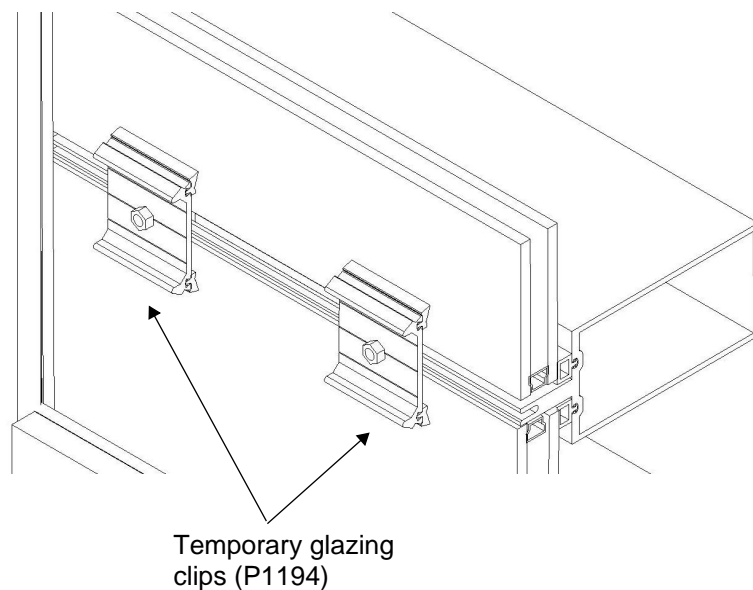

Figure 11: Set the glass and hold it in place with temporary glazing clips (available by request).
- Hold in place using P1194 temporary glazing clips (available by request) and S139 fasteners, as shown in Figure 11.